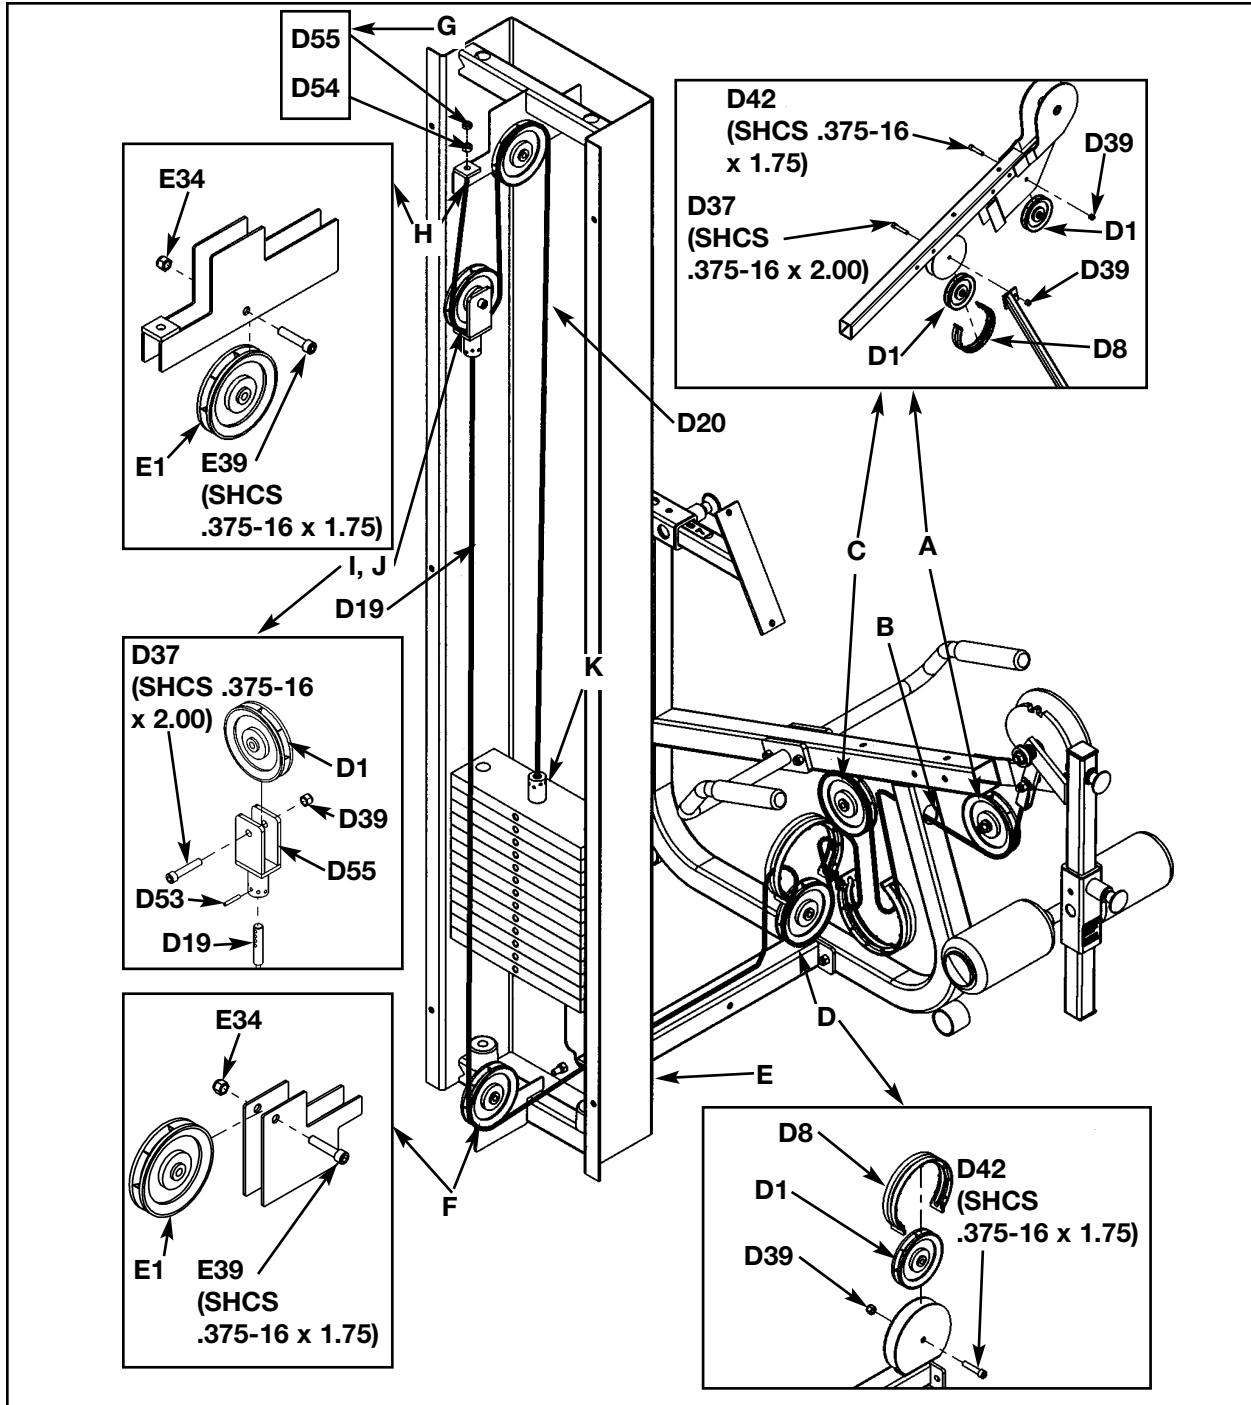

Figure 16
**9. Install and route cables** (see steps 9A - 9M and Figure 16)
- A.** At the same time, install pulley (#D1) and route cable (#D19) using one SHCS .375-16 x 1.75 (#D42) and one nylon locknut (#D39). See Figure 16, letter A.
- B.** Route cable (#D19) through frame. See Figure 16, letter B.
- C.** Remove the SHCS .375-16 x 2.00 (#D37). Loop cable (#D19) through cable guard (#D8) and install next pulley (#D1) and cable guard (#D8) using the SHCS .375-16 x 2.00 (#D37) and nylon locknut (#D39) that was just removed. See Figure 16, letter C.
- D.** Loop cable (#D19) through the second cable guard (#D8) and install the next pulley (#D1) using SHCS .375-16 x 1.75 (#D42) and one nylon locknut (#D39). See Figure 16, letter D.
- E.** Route cable (#D19) to inside of column as shown in Figure 16, letter E.
- F.** At the same time, route cable (#D19) and install the next pulley (#E1) using one SHCS .375-16 x 1.75 (#E39) and one nylon locknut (#E34). See Figure 16, letter F. Set cable down.
- G.** Using the weight stack cable (#D20), attach one end as shown in Figure 16, letter G. Install hex nut (#D54) first and then jam nut (#D55). Position jam nut (#D55) so it is even with cable end.
- I.** Pick up the other cable (#D19) and install the pulley mount (#D55). Drive a spiral pin (#D53) through cable end and pulley mount (#D55) as shown in Figure 16, letter I.
- J.** Wrap a portion of the weight stack cable (#D20) around the last pulley (#D1) to be installed. At the same time, route cable (#D20) and install the last pulley (#D1) using one SHCS .375-16 x 2.00 (#D37) and one nylon locknut (#D39). See Figure 16, letter J.
- K.** Slide rubber boot onto cable (#D20). Drive a spiral pin (#E35) through top weight connector and cable (#D20). Top weight should be snug (just resting on the second plate). See Figure 16, letter K.